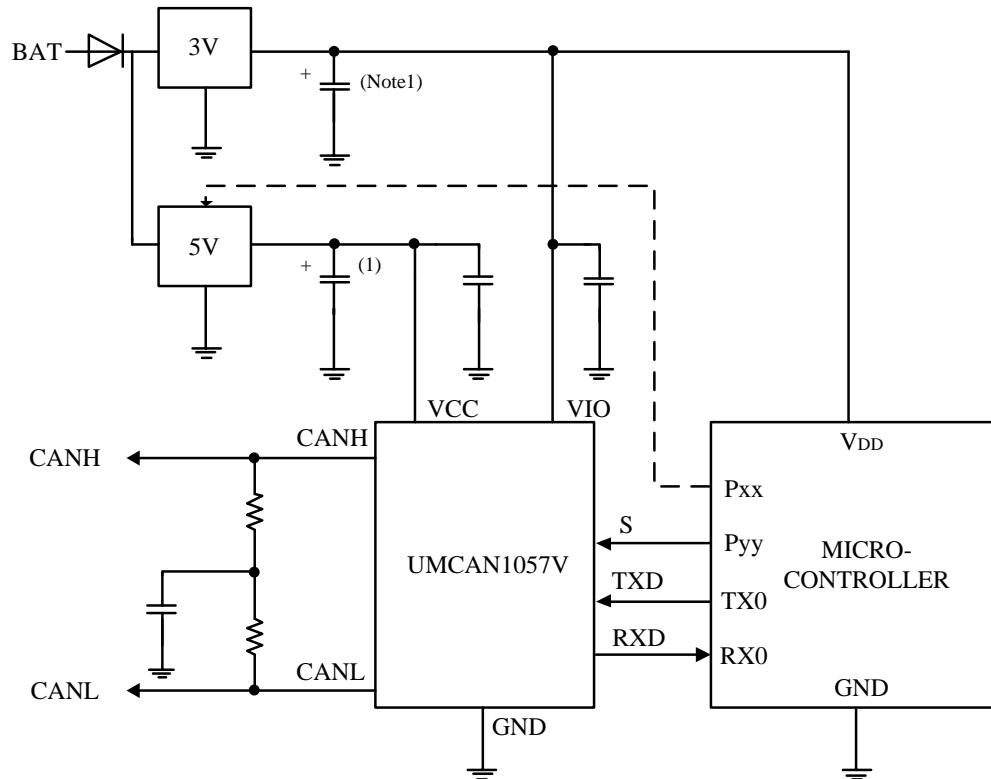

Figure 10-2. Typical application of the UMCAN1057V
There are three versions of the UMCAN1057 available, only differing in the function of a single pin. Pin 5 is either an enable control input (EN), a V_{IO} supply pin or is not connected. Pin V_{IO} on the UMCAN1057VS8 and UMCAN1057VDA should be connected to the microcontroller supply voltage (see Figure 10-2). This will adjust the signal levels of pins TXD, RXD and S to the I/O levels of the microcontroller. For versions of the UMCAN1057 without a V_{IO} pin, the V_{IO} input is internally connected to V_{CC} . This sets the signal levels of pins TXD, RXD and S to levels compatible with 5V microcontrollers.